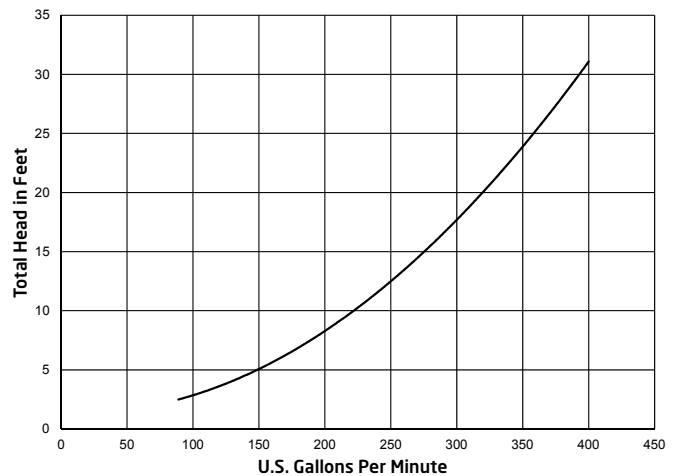

Figure 2
- For optimal performance, use 4" plumbing when the total distance between the pump and jet housing is 30 ft or less. The plumbing should be as direct and free from turns or bends as possible because **elbows and other fittings can create large friction losses and reduce the performance of the system. The shortest length of pipe with the minimum number of fittings possible should be used to avoid any significant friction loss due to the pipe and fittings.** **NOTE:** Refer to Figure 2 for the BaduJet Imperial head loss curve.
- A maximum of seven (7) 90° 4" elbows may be used with 30 ft of horizontal 4" pipe for the suction line and 30 ft of horizontal 4" pipe for the discharge line without negatively affecting the performance of the system.
- If more elbows are required for the installation, 4" sweeps must be used in place of the elbows. When using sweeps instead of elbows, a maximum of nine (9) 4" sweeps may be used with 30 ft of horizontal 4" pipe for the suction line and 30 ft of horizontal 4" pipe for the discharge line without negatively affecting the performance of the system.
**CAUTION:** The BaduJet Imperial system includes 30 ft of cable for the LED light and two 30 ft lengths of air tubing for the air buttons. If the control box cannot be located within 30 ft of the jet housing, please contact the factory at (800) 223-8538 or [technical.usa@speck-pumps.com](mailto:technical.usa@speck-pumps.com).